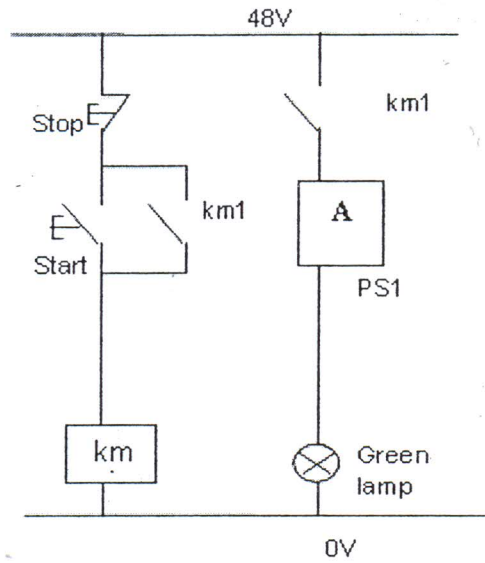

Figure 7: Circuit diagram
- (a) Complete the diagram in **Figure 7** (in a provided box A) with suitable symbol of a photoelectric sensor